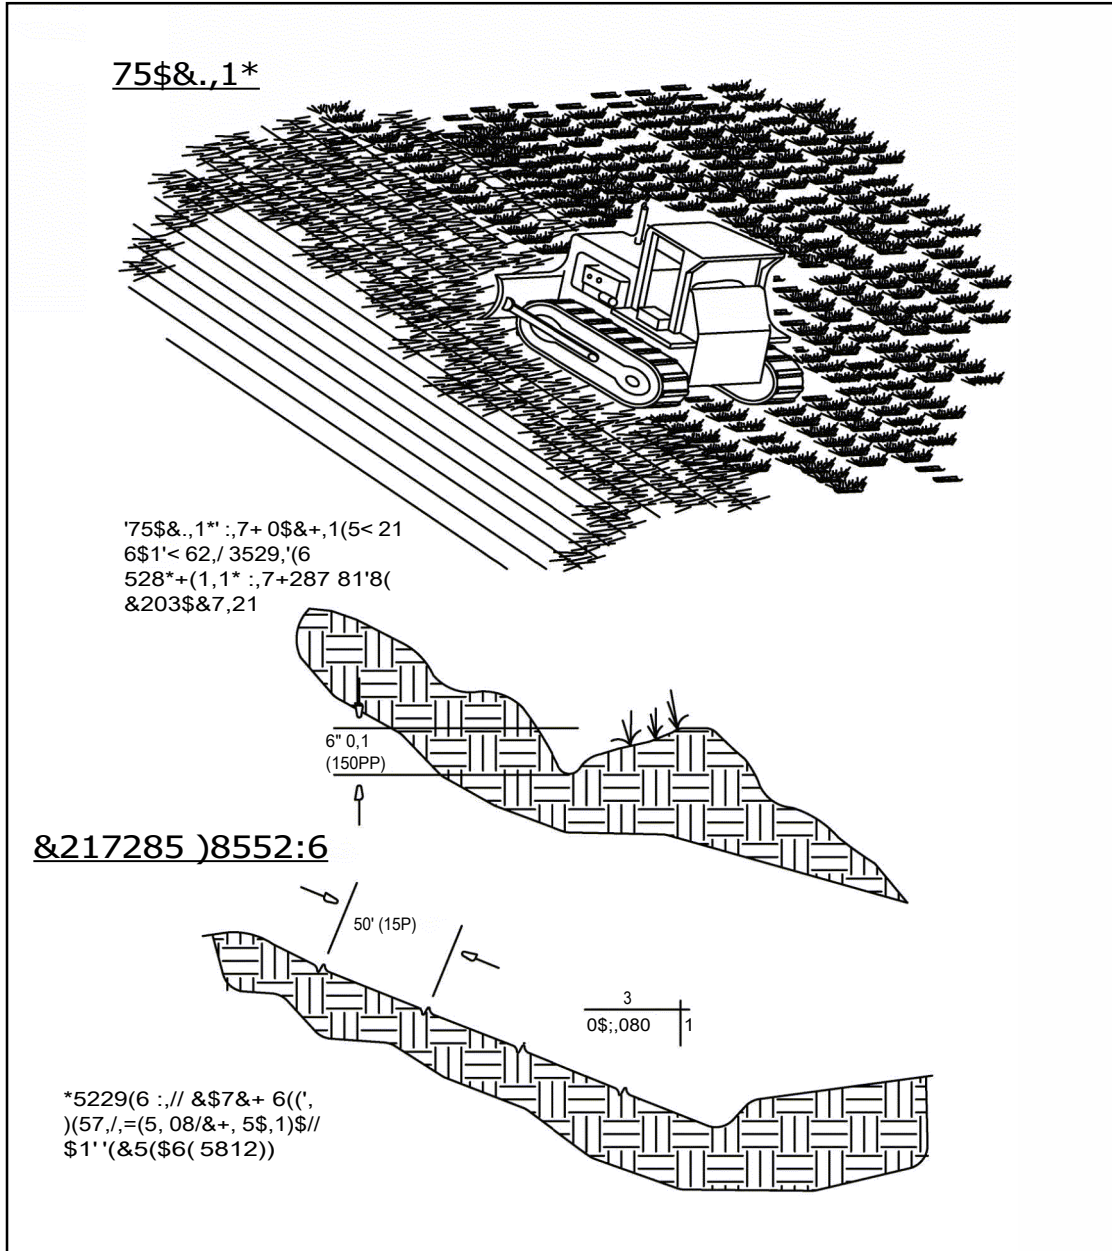

Figure 3 - 5: Surface Roughening by Tracking and Contour Furrows
- There are different methods for achieving a roughened soil surface on a slope, and the selection of an appropriate method depends upon the type of slope. Roughening methods include stair-step grading, grooving, contour furrows, and tracking. See Figure 3 - 5: Surface Roughening by Tracking and Contour Furrows for tracking and contour furrows. Factors to be considered in choosing a method are slope steepness, mowing requirements, and whether the slope is formed by cutting or filling.